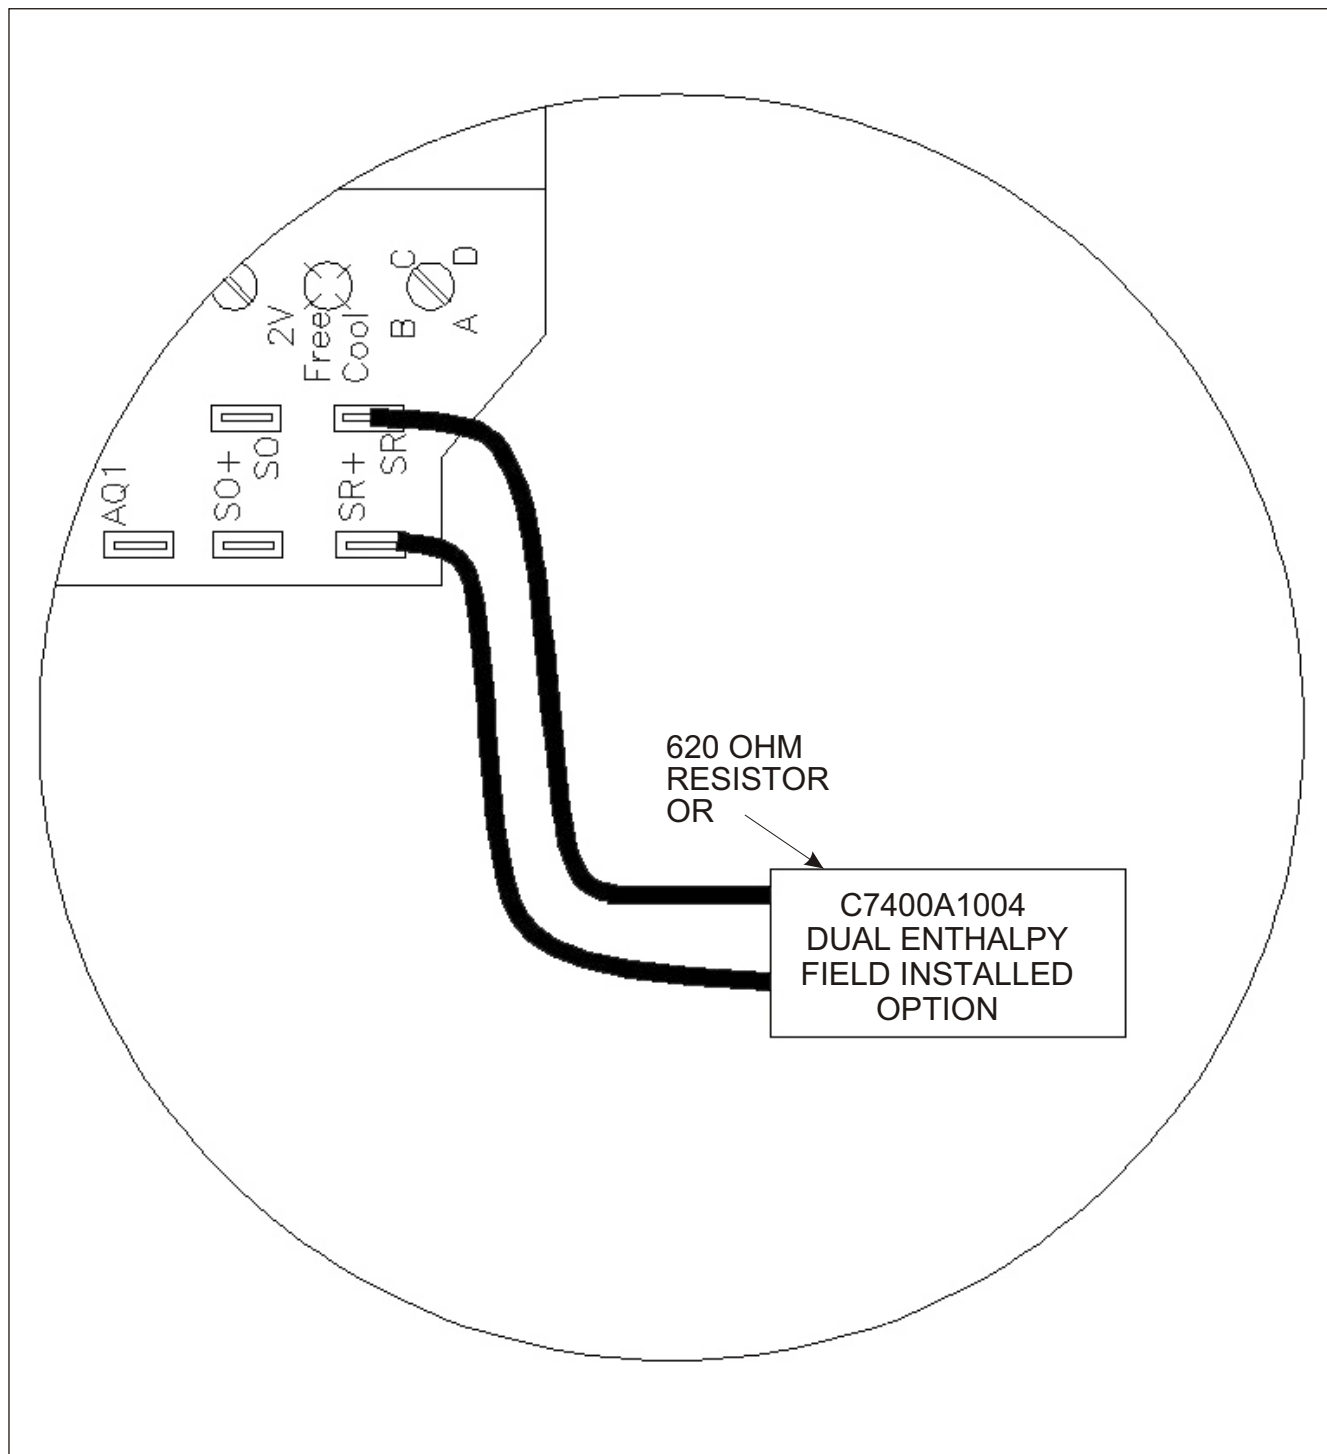

Figure 5: Enthalpy Sensor Wiring Diagram
4. Wire the sensor and Logic Module (see Figure 5 for wiring).
5. Mount the sensor to the mounting plate using (2) 6-20 x $\frac{7}{8}$ " screws. Secure mounting plate back to the damper using the four screws removed in Step 1 of the 7 to 25 Ton Vertical and Horizontal section.